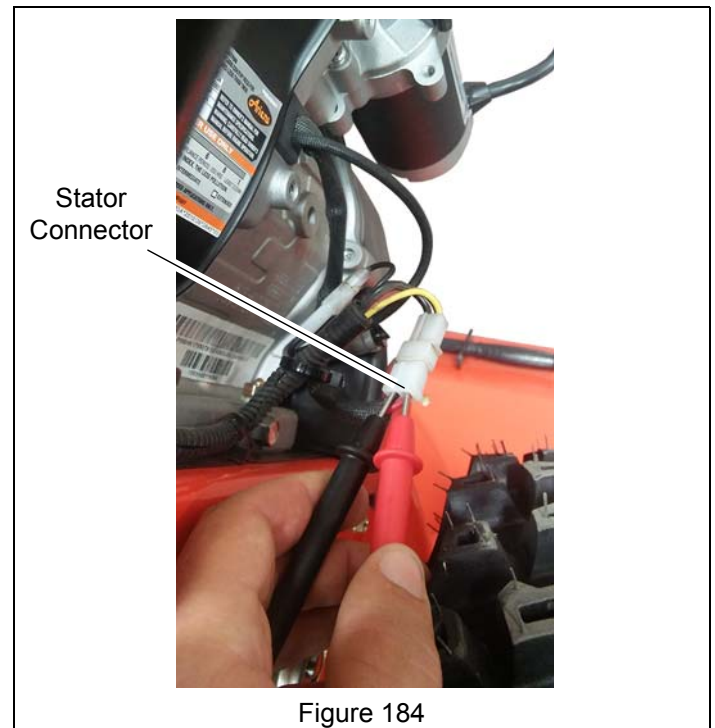

Figure 184
5. Back probe the engine stator output connector. See Figure 184.
If stator output measures over 14 V AC, replace stator. If output is within range, advance to step 3. See Figure 184.
3. Back probe the engine stator output connector. See Figure 184.